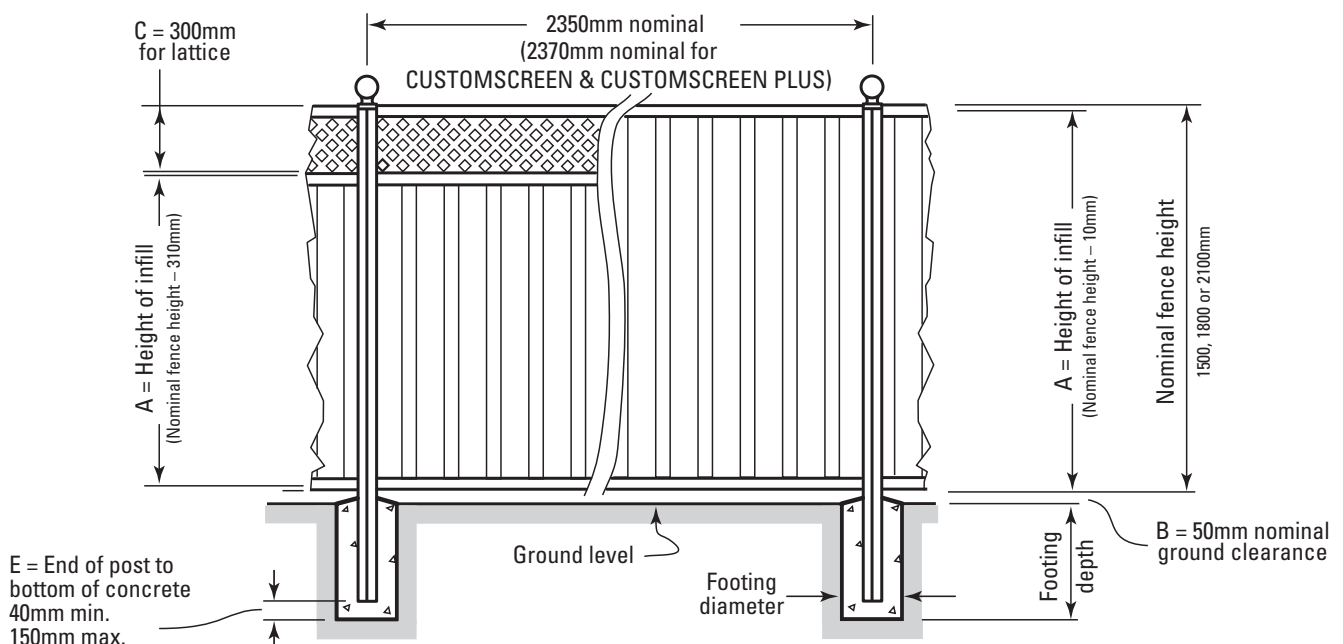

Figure 6.2
(Refer to Figure 6.2. For data on tapered ends, see Page 15).
A = Height of infill sheet (Figure 6.2)
B = 50mm ground clearance (Figure 6.2)
C = If using lattice: 300mm (Figure 6.2)
* Cut so that dimension E in Figure 6.2 is between 40 and 150 mm.